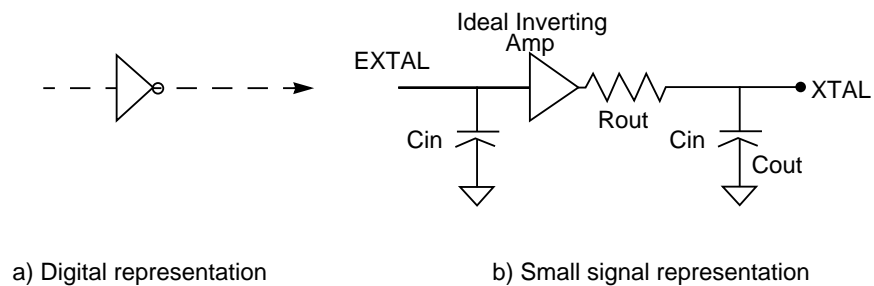
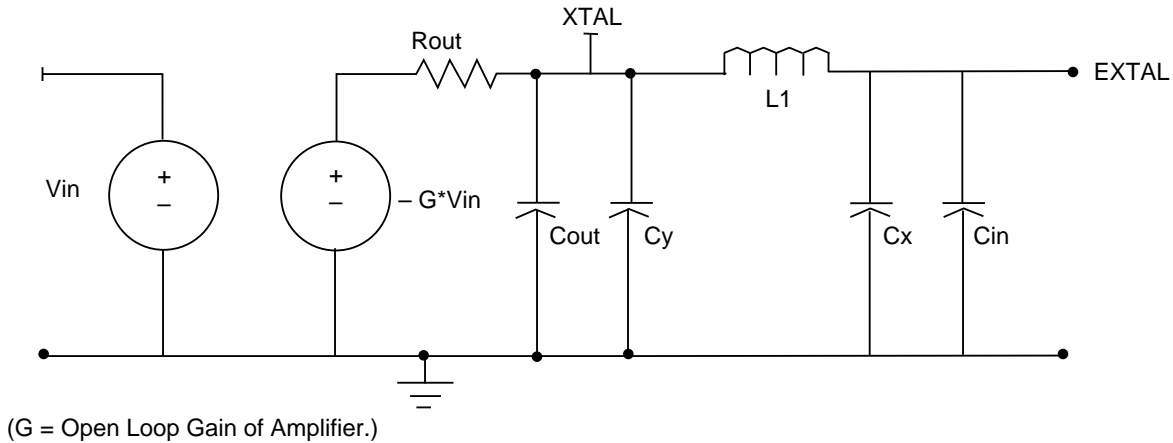

Figure 5 Model of CMOS Logic Gate
Figure 6 Small Signal Model of Inverting Amplifier and Crystal Circuit
The STOP pin of the NAND gate in **Figure 1** is asserted by the CPU to disable the oscillator for ultra low-power mode operation. In normal operation, the NAND gate acts as a small signal-inverting amplifier operating in a linear mode. For sake of digital analysis, the gate is modeled as shown in **Figure 5**. However, to fully understand the operation of the oscillator circuit, the small signal equivalent circuit model must be analyzed as shown in **Figure 6**.
- PCB contaminants reducing impedance between nodes such as humidity, flux, and finger prints are problems. When printed circuit boards are manufactured, a flux is applied to the board to promote good solder bonds. Normally, a wash cycle is used to remove the flux. If the board is not cleaned entirely, the residual flux may supply an unwanted impedance path on the board. Take special care to check between the crystal leads and beneath SMT devices. These are notorious locations for flux build-up. Humidity or actual condensation on the board can also supply unwanted impedance paths. Referring to **Figure 6** if R_{x2} is introduced due to contaminants, the input offset voltage will be pulled towards ground. This will effectively lower the amplifier's gain by limiting the input voltage swing.